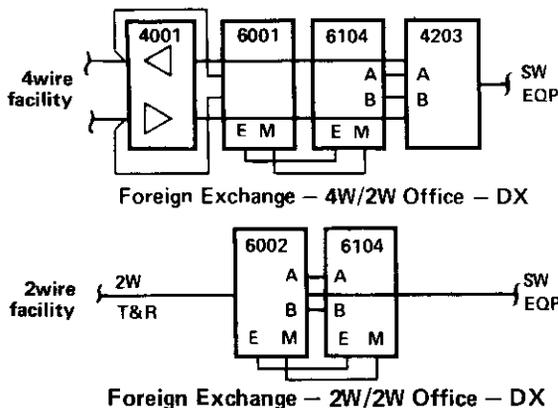

figure 3. Two typical DX signaling arrangements
2.10 While in 2wire applications no external facility-interface module is needed (the 6002 contains the necessary repeat coil), in 4wire applications a third and fourth module are required. On the facility side, a line amplifier (e.g., Tellabs' 4001) or a 4411 Pad/Transformer module must be used to derive transmit and receive simplex leads for inputs from the facility to the 6001. On the terminal (switching-equipment) side, a term set (Tellabs' 4201 or 4203) provides the 4wire-to-2wire termination and level control. Figure 3 shows two typical DX signaling arrangements.